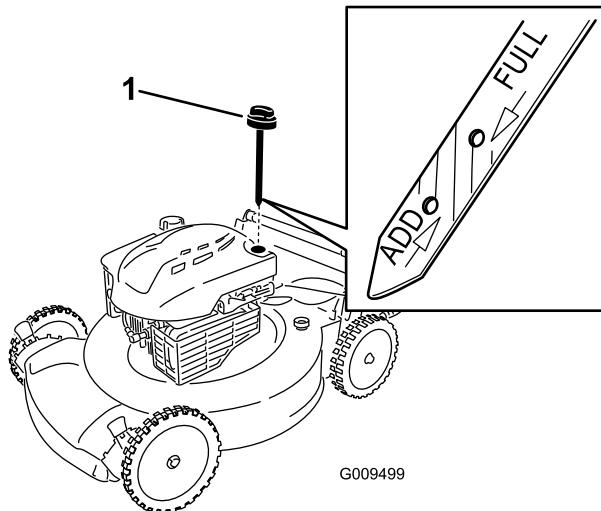

Figure 16
3. Remove the dipstick (Figure 16).
6. Slowly pour oil into the oil fill tube until the oil level reaches the Full line on the dipstick (Figure 16). Wait 3 minutes after adding oil to check the oil with the dipstick. **Do not overfill.** (Max. fill: 20 oz. (0.59 l), type: SAE 30 detergent oil with an API service classification of SF, SG, SH, SJ, SL, or higher)